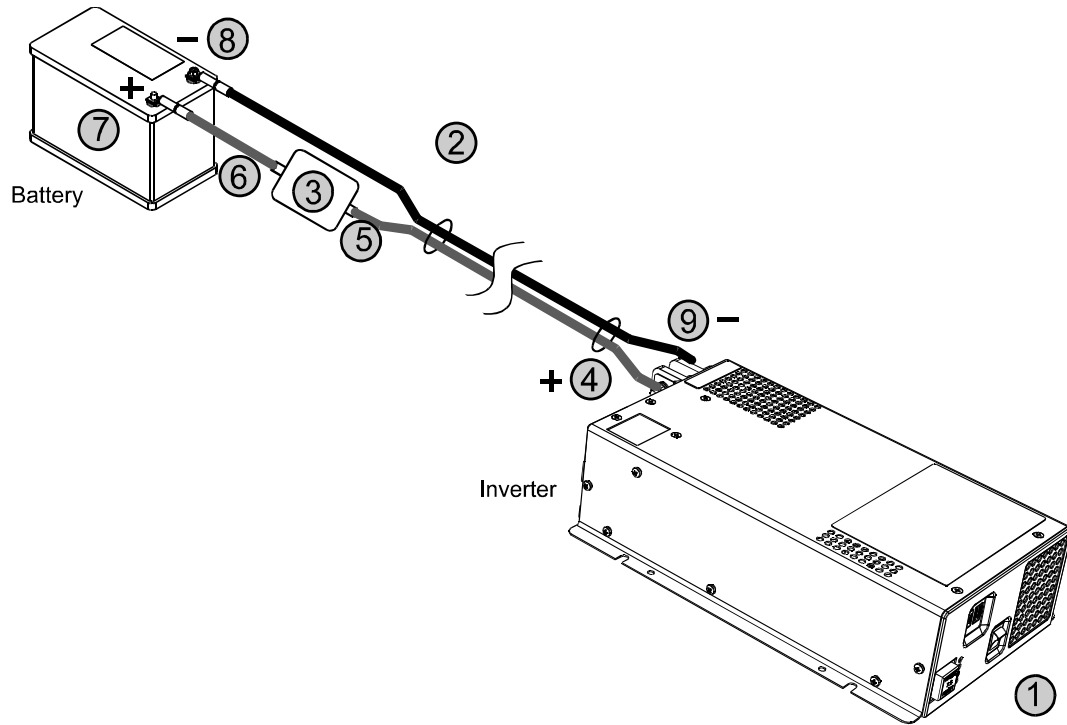

Figure 7 Connection order for DC cables
Refer to Figure 7, “Connection order for DC cables” on page 17.
- To reduce the chance of interference, keep the positive and negative cables close together—ideally, tied together at regular intervals as shown in Figure 7, “Connection order for DC cables” on page 17.
Connect the DC cables as shown in Figure 7, in the order shown by the numbers.